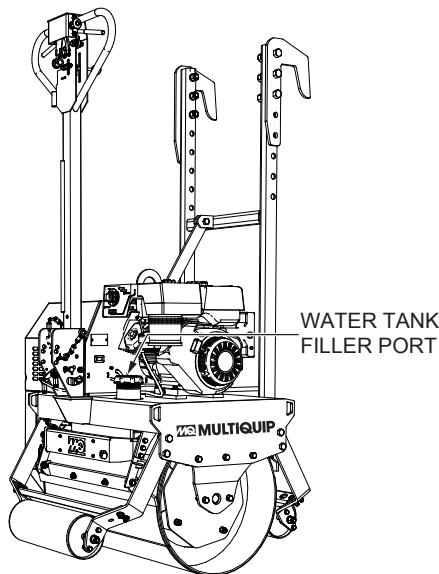

Figure 12. Checking Water Tank
1. Check the water tank to see if filled. Add water if necessary. See Figure 12.